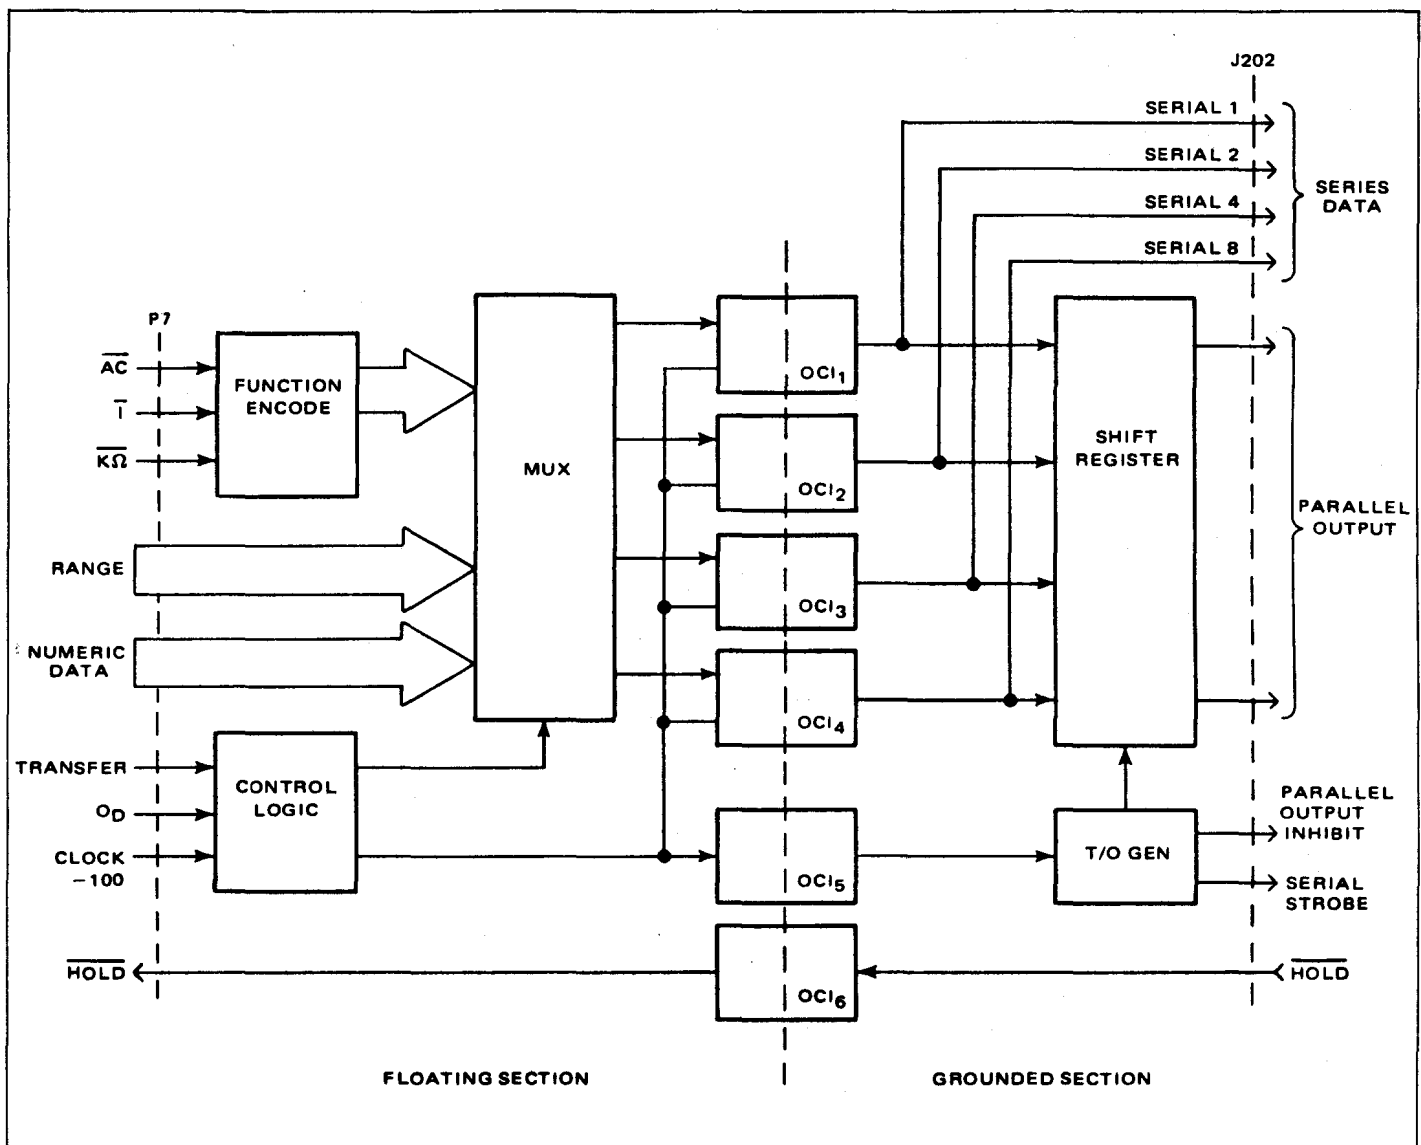

Figure 3.1 - BCD Output
3.3.1 The option, shown in simplified block diagram form in figure 3.1, consists of a floating section, a grounded section, and six optical couplers.